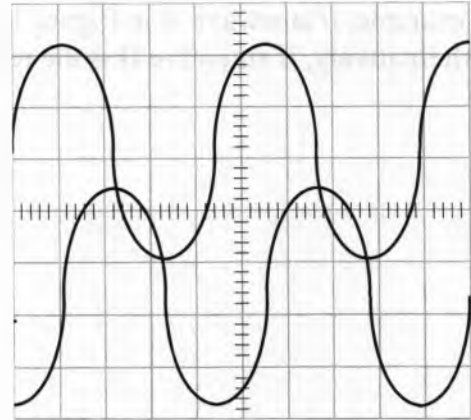

Figure 11
3. Adjust the CRO so that both waveforms are displayed (see Figure 11). Remember to make sure that all *CAL* controls are in their detent position!